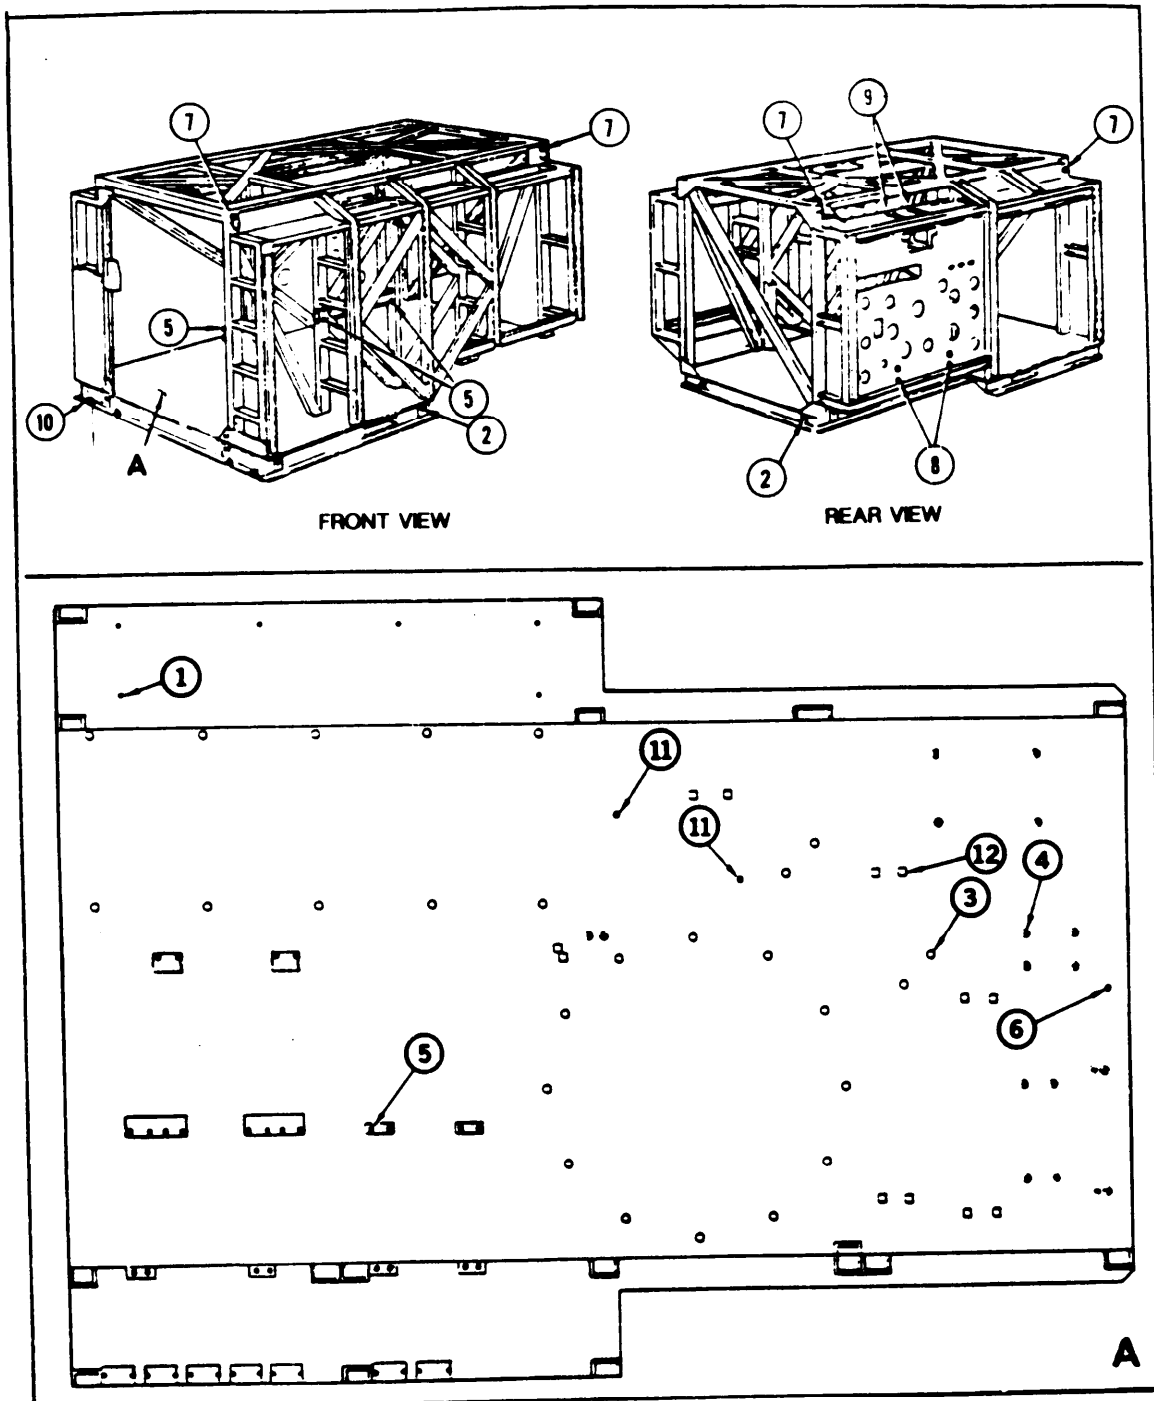

Figure 3-60. ROWPU Frame, Repair
3-46. ROWPU FRAME. (Figure 3-60)
(1) Straighten all bent, twisted, or dented frame members using conventional repair methods
(2) Repair and reweld all cracked and broken welds.
(3) Remove inserts (1) through (9) from frame assembly (figure 3-60).
(4) Remove nuts (10) through (12) from frame assembly.